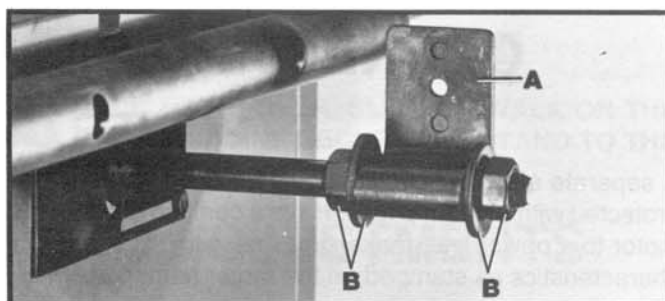

Fig. 17
2. Assemble splitter bracket (A) to the end of the guard support rod using the two hex nuts and flat washers (B), as shown in Fig. 17.